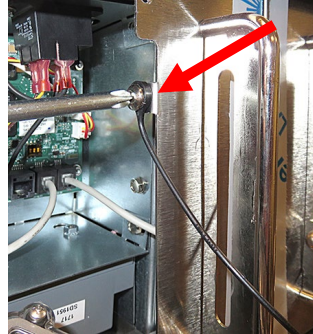

Figure 17
- Disconnect the lanyard tether from the frame (see Figure 17) to remove the controller.